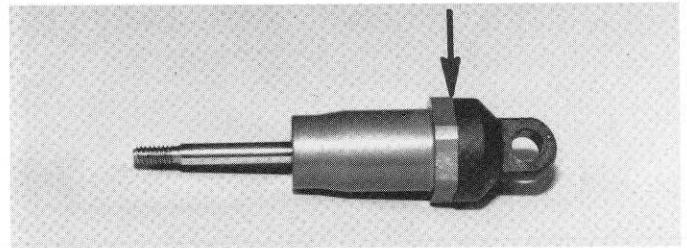

Fig. 120
- **Fig. 120** Push the shaft up so the piston is up to the top of the body, otherwise there will be too much internal pressure. VERY CAREFULLY screw the shock cap onto the body, making sure the cap goes on straight. BE CAREFUL not to crossthread the cap.